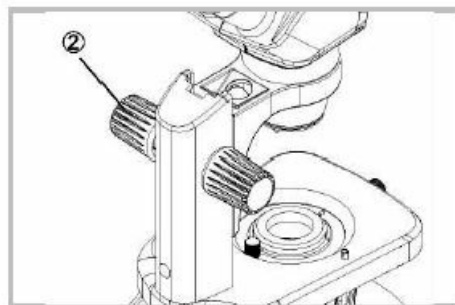

Fig. 5
- **Adjusting the Rotation Tension Of the Focus Adjustment Knob (Fig. 5)**